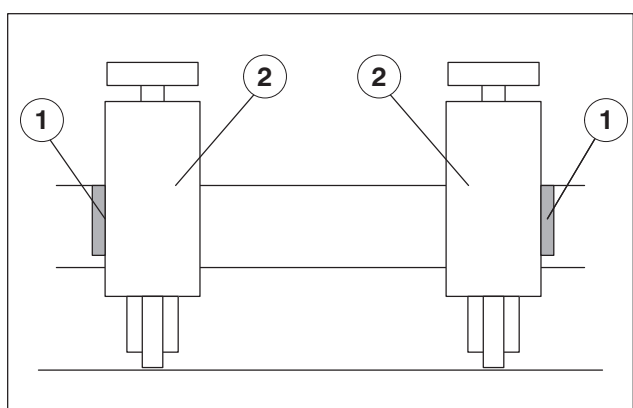

Fig. 54 Positioning aid for small size forwarding rollers
- Additional aid when positioning: align the small forwarding rollers (Fig. 54/2) so that the outer edge of the forwarding roller lies directly at the edge of the notched yellow mark (Fig. 54/1) on the shaft.